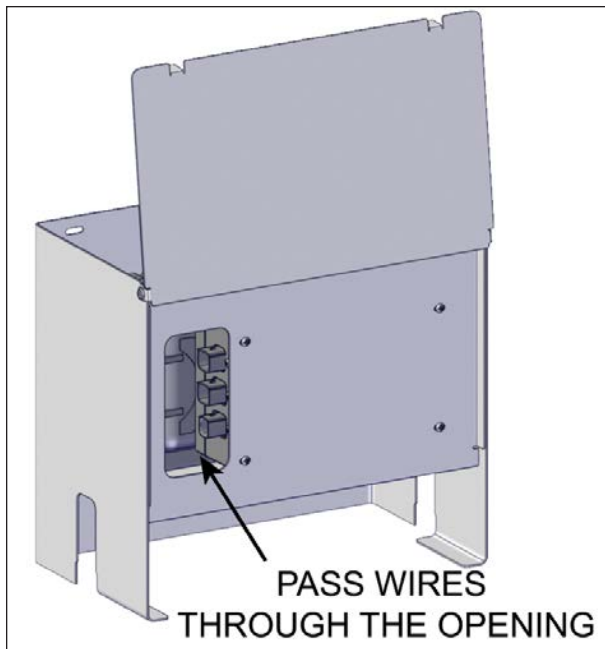
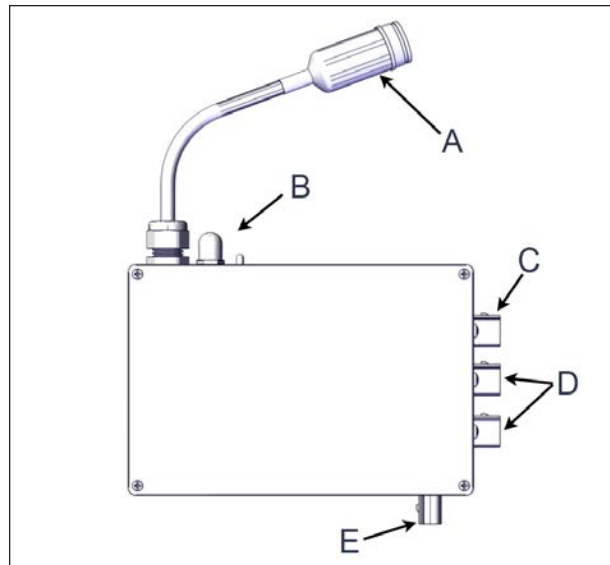

FIGURE 87: CONTROL BOX HOUSING
FIGURE 88: BATTERY/SOLAR PANEL CONTROL BOX
1. Locate the control box housing and control box, see Figure 87 and Figure 88.
3. Unpack the key switch and plug the harness into the control box (item C, Figure 88).
4. Unpack the optional solar panel kit from the boxes and connect the solar panel harness (item E, Figure 88).